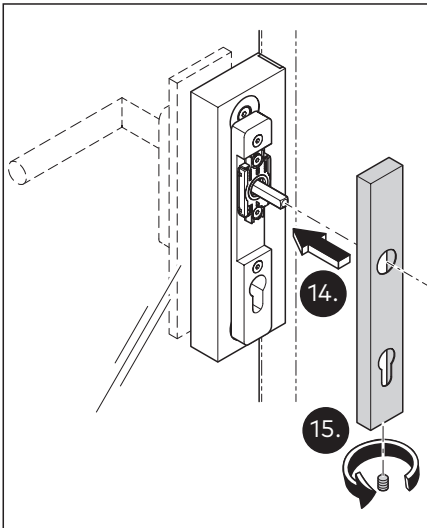

Fig. 36 Attach the cover to the base plate and fix in place
- 14. Attach the cover to the base plate (Fig. 36).